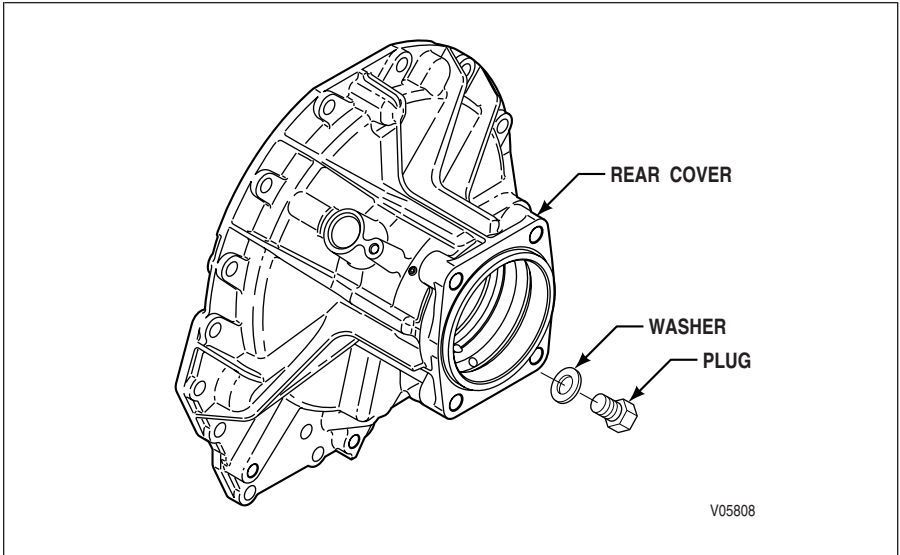

Figure 6-1. Tachograph Plug Replacement
1. Remove the plug and washer from the rear cover (refer to Figure 6-1). Inspect the washer. Replace the washer if the joint was leaking or if a new plug is being installed.